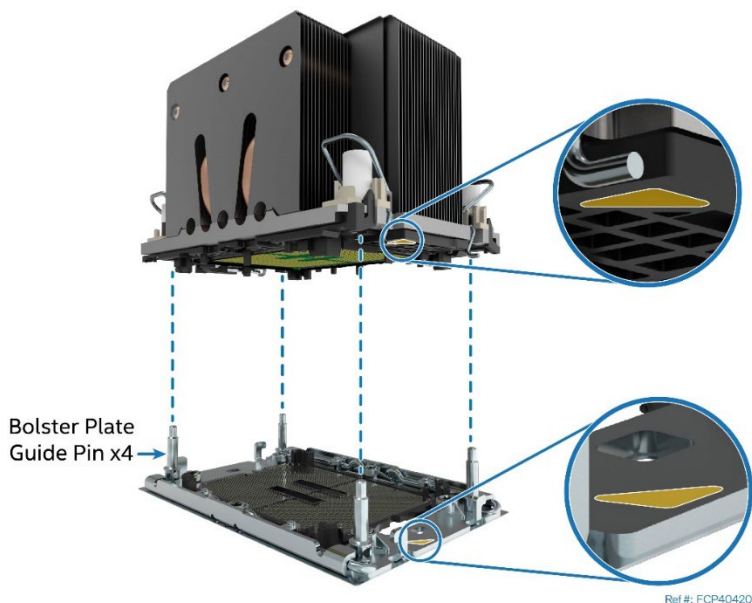

Figure 122. PHM Alignment with Socket Assembly
3. Align the Pin 1 indicators of the processor carrier clip and processor with the Pin 1 indicator on the bolster plate located around the processor socket (See Figure 122).